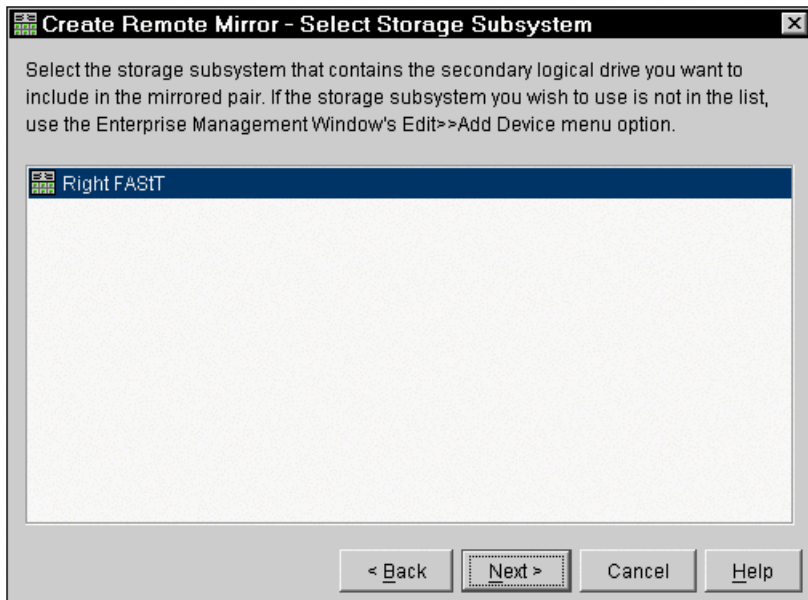

Figure 6-19 Select Storage Subsystem window
- When the select storage subsystem window appears (Figure 6-19), highlight the FAST storage subsystem that you want to be the secondary. Click **Next** to create the remote storage subsystem.